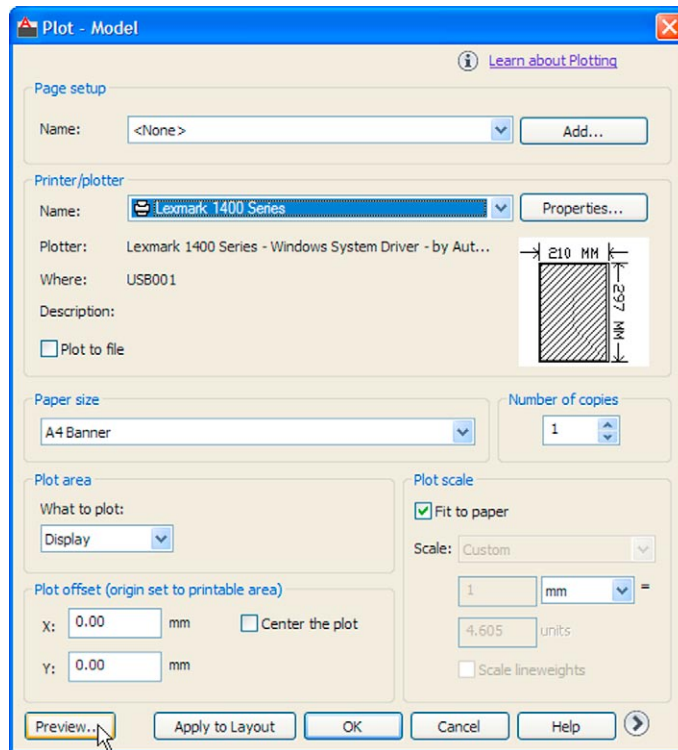

Fig. 15.35 The Plot dialog
2. The **Plot** dialog appears (Fig. 15.35). Set the **Printer/Plotter** to a printer or plotter currently attached to the computer and the **Paper Size** to a paper size to which the printer/plotter is set.